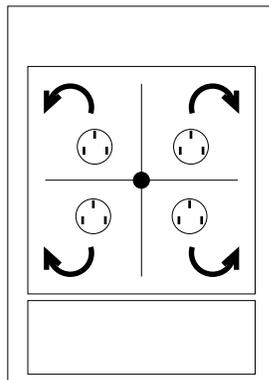

Figure 3.5 Combined Motions
- As with the physical joystick, combined motions are possible, as illustrated in Figure 3.5.